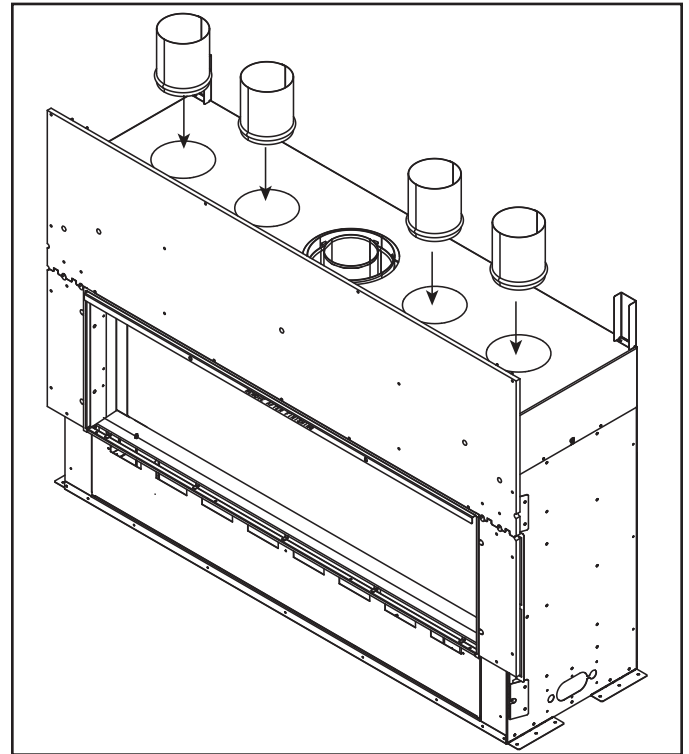

Figure 10 Install Collars
3. Set a collar in each of the holes where the knockouts were removed. See Figure 10.